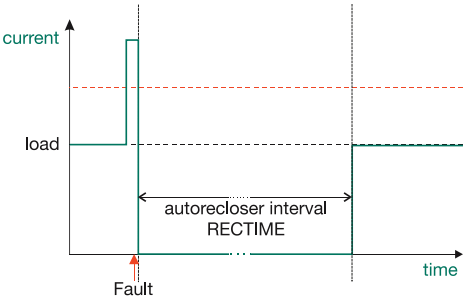

figure 13: Autorecloser interval
- RECLOSER TIME: Autorecloser interval. This time should be set to the time of the last reclosing attempt of the autorecloser units (see figure 13).